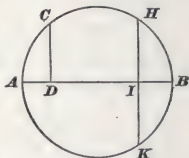

FIG. 47.
\* If  $AB$ , Fig. 47, is the given diameter and  $C$  any point on the circumference, then  $AD : CD = CD : DB$ ,  $CD$  being a mean proportional between  $AD$  and  $DB$ .
**EXAMPLE.**—In Fig. 47, the diameter of the circle  $AB$  is  $36\frac{1}{8}$  feet and the distance  $BI$  is 8 feet; what is the length of the line  $HK$ ?
2. Suppose that in Fig. 47, the diameter  $AB = 15$  feet and the distance  $BI = 3$  feet. What is the length of the line  $HK$ ?      Ans. 12 ft.